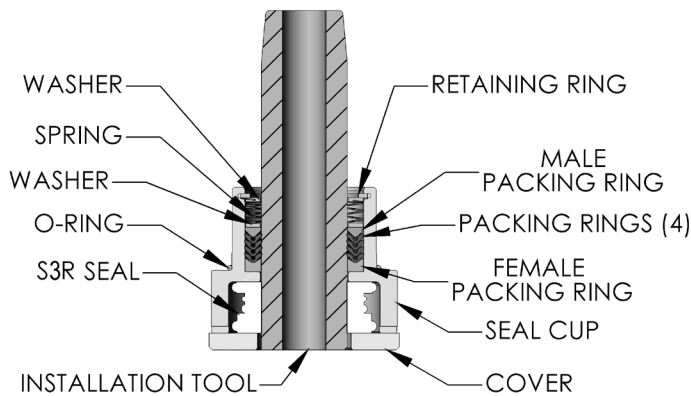
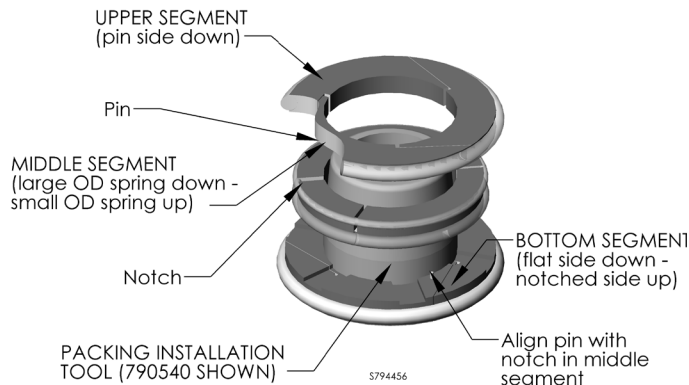

Figure 16a – Seal Cup Assembly
Figure 16b - S3R Oil Seal Installation
- g. Install the S3R seal in the seal cup as shown in figure 16a. Place the S3R seal on the packing installation tool in the order shown in figure 16b, with the upper segment toward the tapered end of the installation tool. Insert the installation tool, with the S3R seal, into the seal cup, with the tapered end toward the packing rings. Place seal cup cover on seal cup and secure with two capscrews